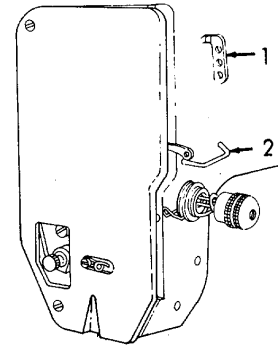

Figure 6-86. Thread Guides, Removal.
- (4) Refer to Figure 6-86. Using lock pliers, pull outward and turn to remove press-fit upper needle thread guide (1).
- (5) Using lock pliers, pull outward and turn to remove press-fit lower needle thread guide (2).